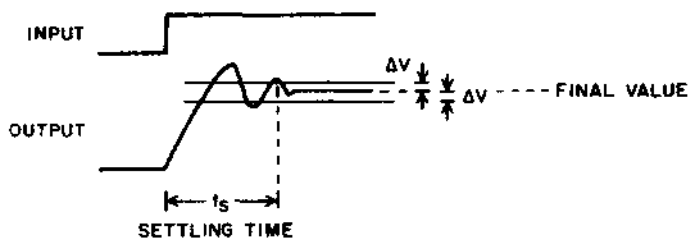

Fig. 4, Setting Time
**Settling time.** This is the time it takes the output to get within and stay within a certain amount of its final value, after the input has received a step input, see Fig. 4. This parameter is important when an amplifier is used in front of an A/D converter, since the A/D should not begin its conversion until the amplifier has settled.